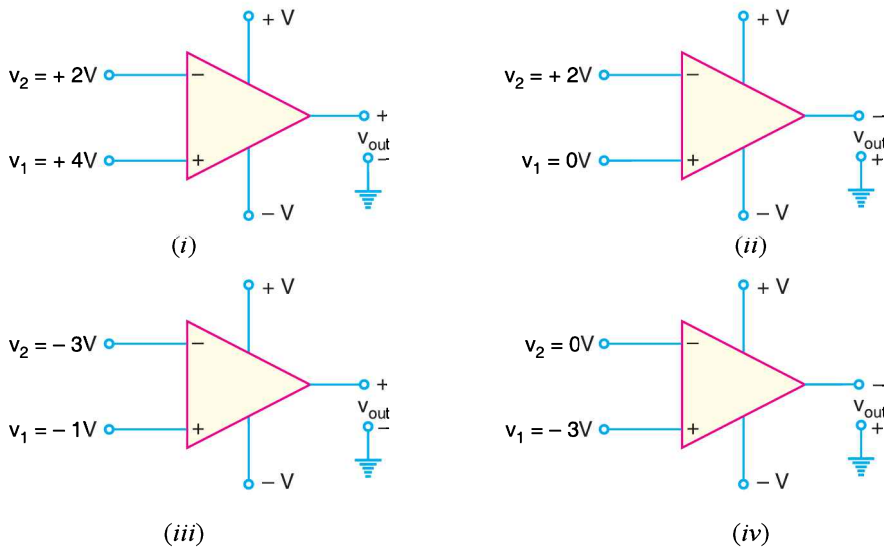

Fig. 25.41
- (i) In Fig. 25.41(i), $v_1 = +4V$ and $v_2 = +2V$ so that $v_{in} = v_1 - v_2 = (+4V) - (+2V) = 2V$. Since v_{in} is *positive*, the *OP*-amp output voltage will be *positive*.
- (ii) In Fig. 25.41 (ii), $v_1 = 0V$ and $v_2 = +2V$ so that $v_{in} = v_1 - v_2 = (0V) - (+2V) = -2V$. Since v_{in} is *negative*, the *OP*-amp output voltage will be *negative*.
- (iii) In Fig. 25.41 (iii), $v_1 = -1V$ and $v_2 = -3V$ so that $v_{in} = v_1 - v_2 = (-1V) - (-3V) = 2V$. Clearly, the *OP*-amp output voltage will be *positive*.
- (iv) In Fig. 25.41 (iv), $v_1 = -3V$ and $v_2 = 0V$ so that $v_{in} = v_1 - v_2 = (-3V) - (0V) = -3V$. Therefore, the *OP*-amp output voltage will be *negative*.